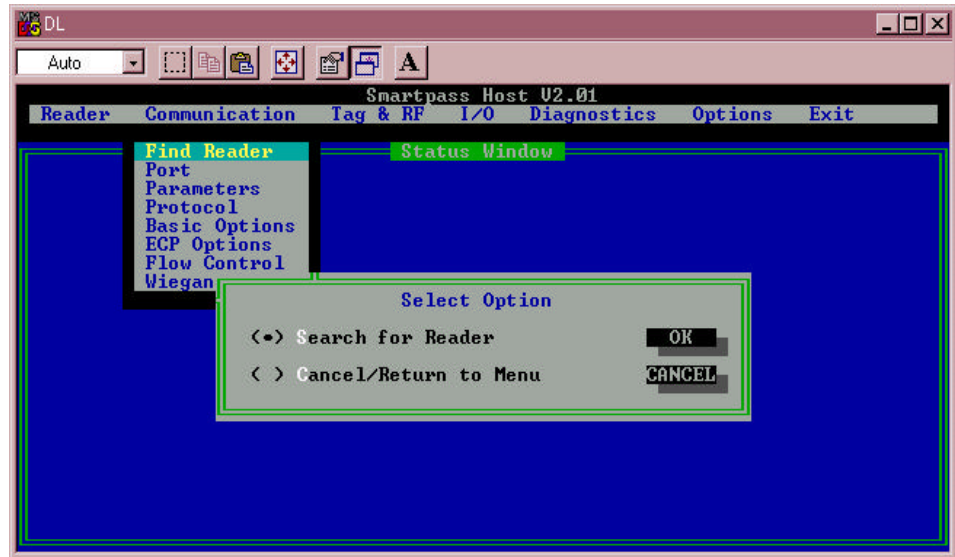

Figure 4-4 Find Reader Options
1. Select the **Communication** drop-down menu and click the **Find Reader** option. This displays the **Select Option** dialog box shown in Figure 4-4.